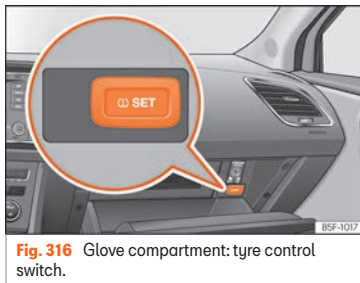

Fig. 316 Glove compartment: tyre control switch.
- Store the new tyre pressure using the switch located in the glove compartment  **Fig. 316**. Press and hold down the **(L)SET**, until an acoustic signal is heard.